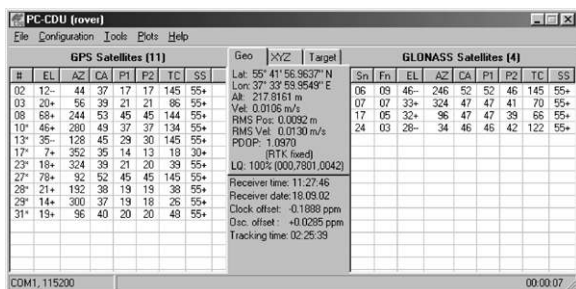

Figure 3-16. PC-CDU Main Screen
9. On the main screen (Figure 3-16), check the LQ field to ensure the receiver obtains differential corrections. Usually, the receiver will start to output the coordinates of the antenna's phase center among with the solution type in 10–30 seconds.